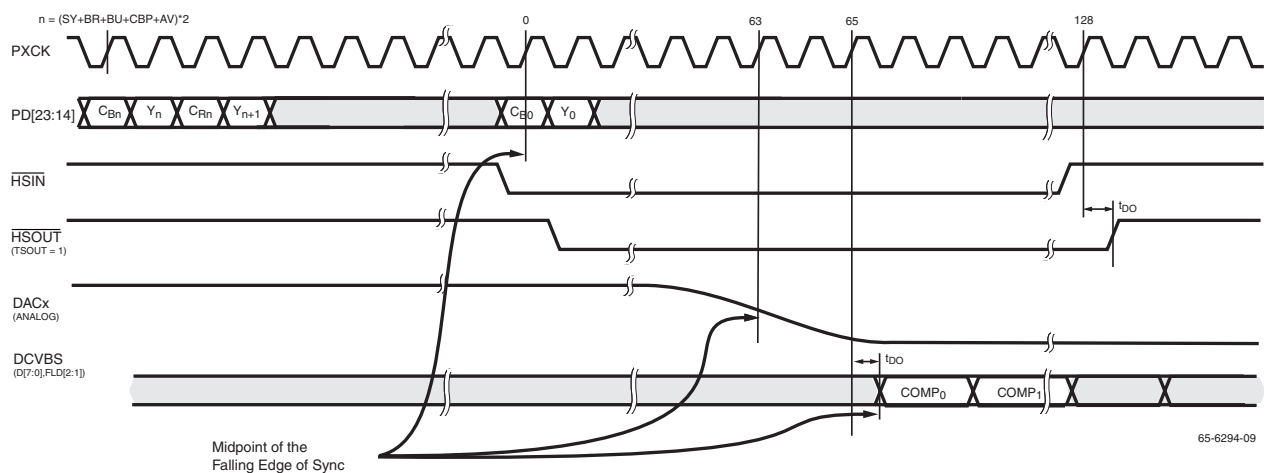

Figure 8. Propagation Delay through the Encoder
The propagation delay from the pixel data (PD) input to the D/A output is 64 PXCK's. Figure 8 shows the propagation delay for both master and slave synchronization modes. For CCIR656 data streams, pixel 736 (pixel 0 in Figure 8) is the midpoint of sync and is 32 PXCK's (24 PXCK's in PAL) after the EAV TRS.